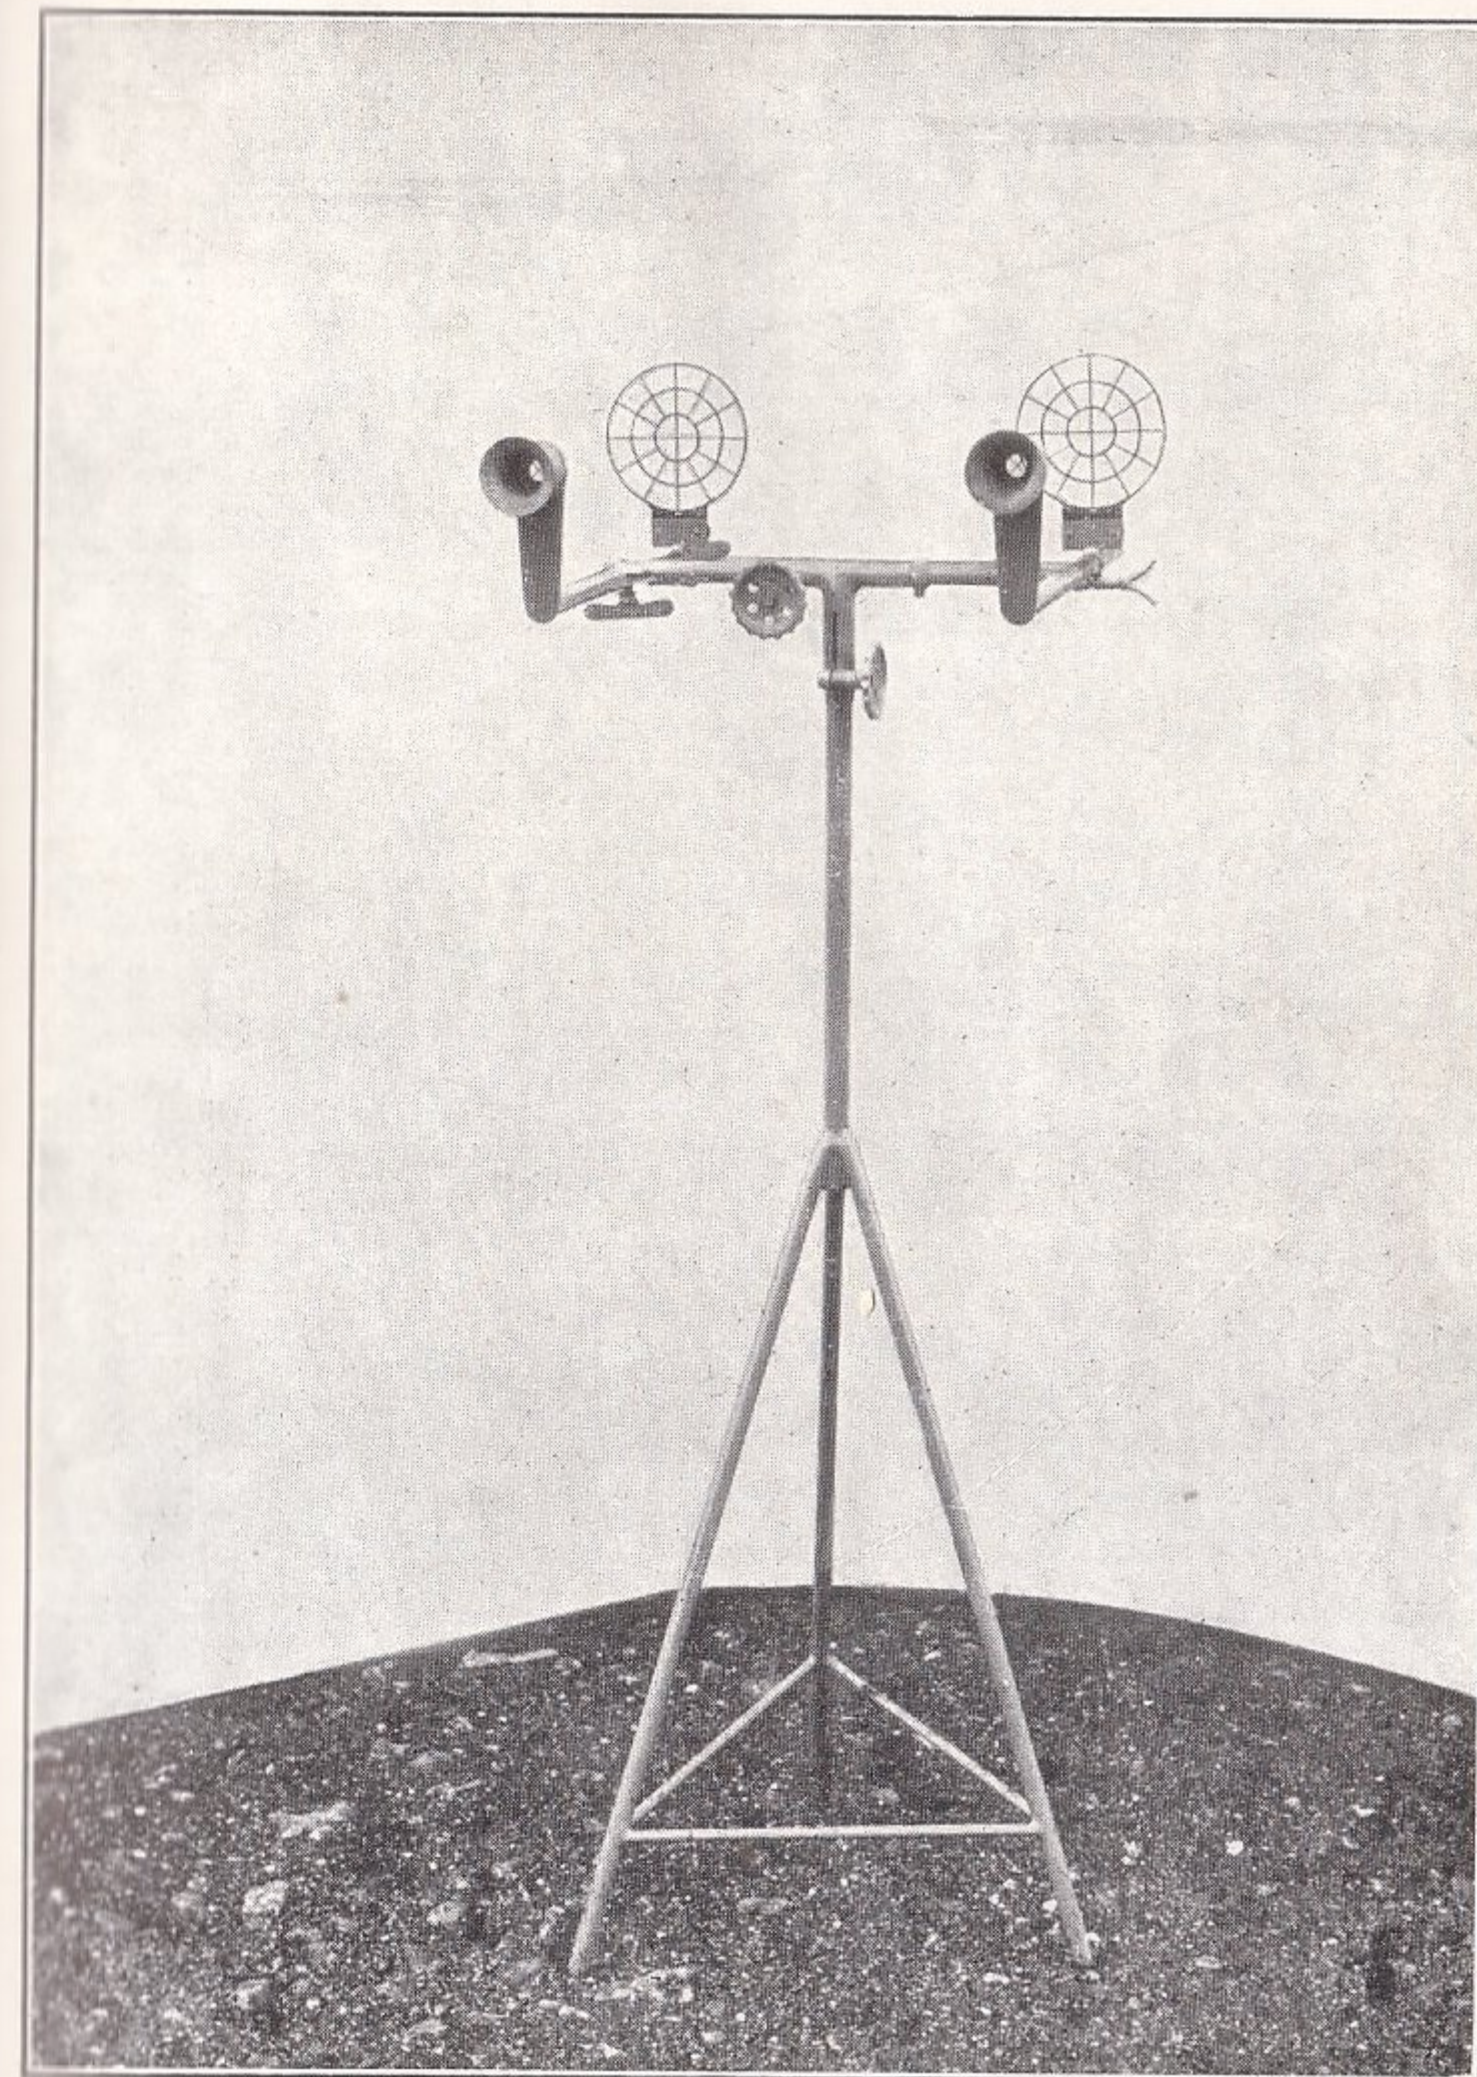

FIG. 15.—Static aiming teacher (sight end).
*Static aiming teacher complete. Flight bar. (See Figs. 15 and 16).*